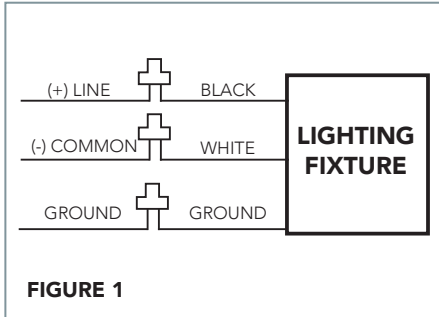

FIGURE 1
1. REMOVE FRONT HOUSING Loosen two screws on the housing. Remove front housing (FIG.1)
5. REPLACE FRONT HOUSING Replace front housing by reversing procedure used to remove it. (FIG.1)
Universal voltage driver permits operation at 120V through 277V, 50 or 60 Hz. Units ordered with (480V) suffix are 480V, 60Hz. For Non-Dimming, follow the wiring directions as in FIG. 1